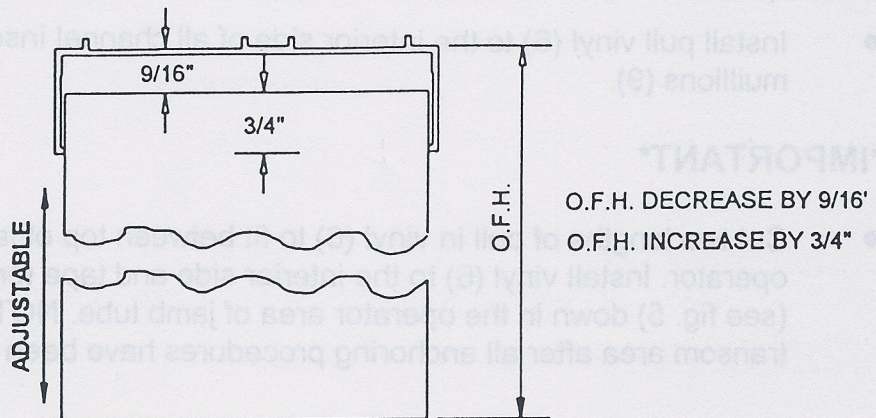

Fig. 3
The header channel (3) is adjustable (see fig. 3) and can compensate for differences between the FOH and the OFH.